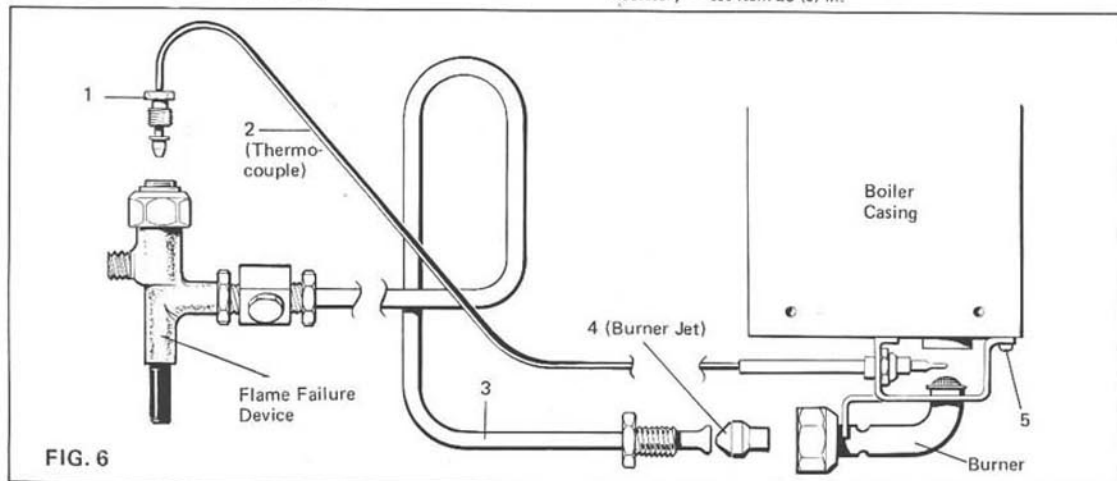

FIG. 6
The burner is fitted with a size 4 jet (4, fig. 6) which is suitable for use on Propane or Butane gas at a supply pressure of 11 inches water gauge. The orifice in the jet is very small, and must never be cleaned by means of a pin or similar instrument, as this could damage the orifice. Should, for some reason, the jet require cleaning, it should be washed in alcohol and blown through with air.
(d) Cleaning Flue, Burner and Jet (See fig. 6)
- (a) Check that the refrigerator is level in both directions, and that the proper clearances for air circulation over the cooling unit at the back have been allowed — see item 3.
- (b) Thermostat incorrectly used ... see item 12.
- (c) Evaporator heavily coated with frost ... see item 15.
- (d) Air circulation around cooling unit restricted ... see item 3.
- ii Connection between thermocouple and flame failure device body loose ... tighten union (1, fig. 6) but do not overtighten.
- (f) Flue baffle not inserted into central tube of the cooling unit ... see item 18 (a).
- (i) Jet orifice or burner gauze clogged ... see item 18 (d).
- (k) Electric operation ... burnt out winding in heater, see item 19 (a).
- (l) 12V operation ... voltage drop due to defective battery, or wiring from battery to refrigerator not heavy enough ... see item 7 (b).
- (m) 12V operation ... burnt out fuse, see item 7 (c).